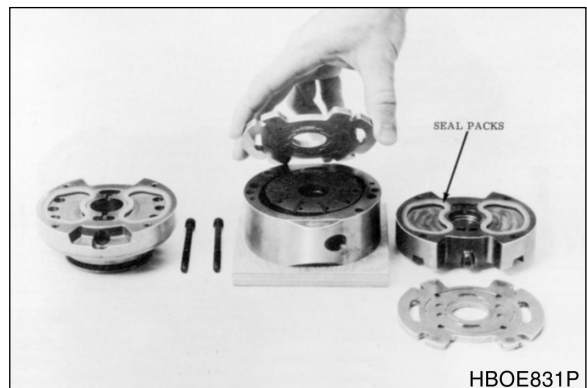

Figure 18
- H. Move flex side plate off center just enough to lift up and away without sliding. (See Figure 18.)